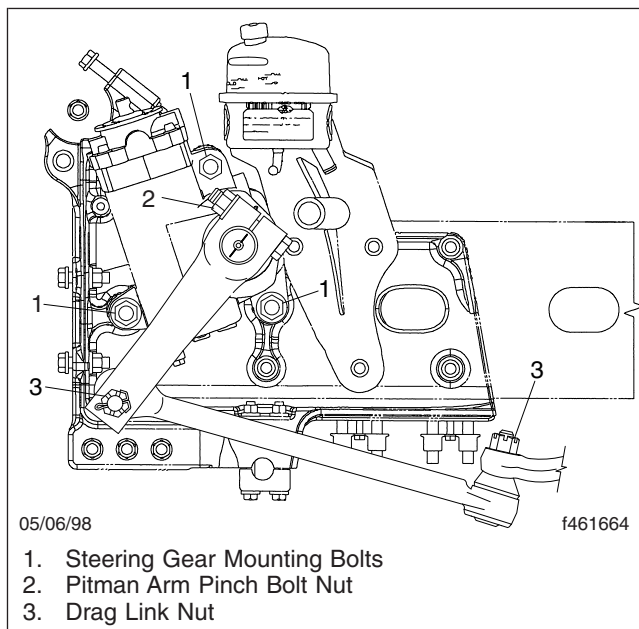

Fig. 23.11, Integral Steering Gear Fasteners
- 2.1 Inspect tie rods, steering arms, and the drag link for signs of looseness (i.e., shiny spots or rust tracks). See Fig. 23.11.